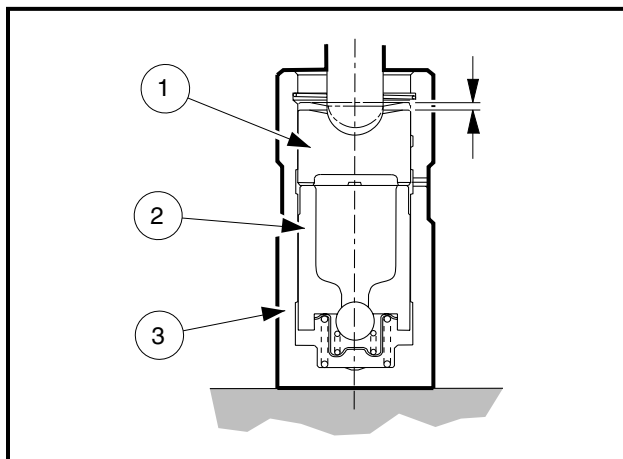

Figure 3-40 Inspect for Hydraulic Lifter Wear
If the engine typically has remained noisy for two minutes after starting, the hydraulic lifters might be worn between the plunger (2) and the body (3). Proceed with the following to check the hydraulic lifter for wear (**Figure 3-40, Page 3-21**).
2. Push the socket (1) down and measure the distance that it sinks (**Figure 3-40, Page 3-21**).
- **Do not press the socket (1) (Figure 3-40, Page 3-21). This will cause the engine oil to leak out of the high pressure chamber during storage. Keep the hydraulic lifters upright to prevent the engine oil from spilling out of the lifters during storage.**